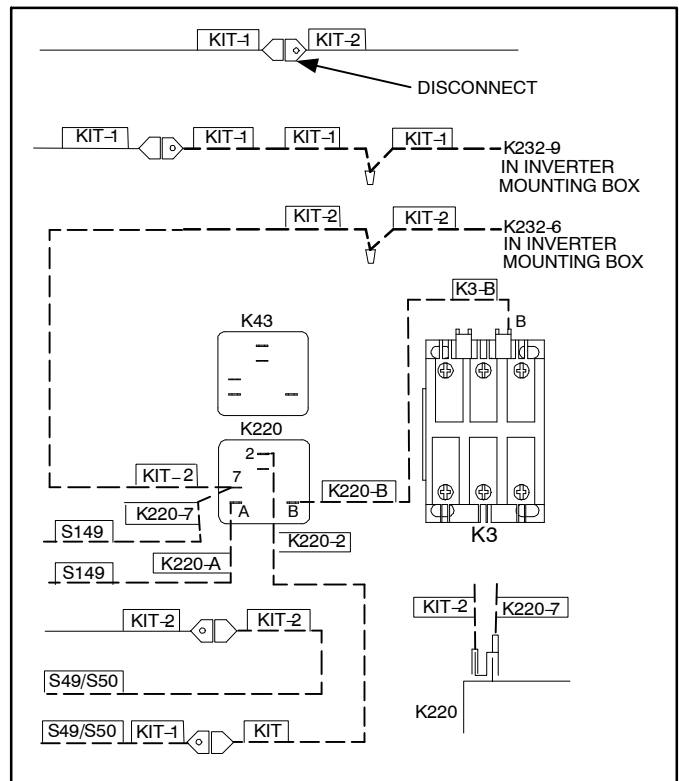

Figure 10. Installing Float Switch, VFD and Freezestat Kits
- 8.2. Make wiring connections as illustrated in figure 10 using harnesses provided in kits.
- 8.2.3. Connect wire from VFD kit marked **KIT-2** to float switch kit harness wire marked **K220-7** receptacle/tab combination that was just connected to the relay in step 8.2.2. (see figure 10).
- 8.2.6. Make all other wiring connections as illustrated in figure 10 and per wire markings. In addition, see wiring diagram provided with VFD kit.